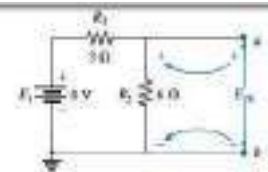

FIG. 9.29
Step 4: Replace the voltage source (Fig. 9.29). For this case, the open-circuit voltage E_{Th} is the same as the voltage drop across the 6 Ω resistor.